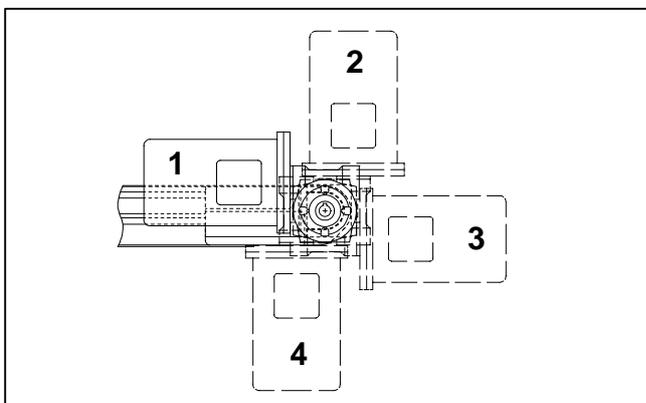
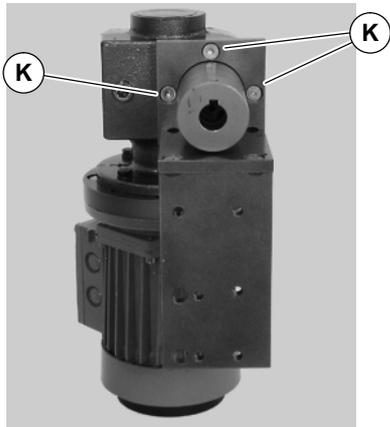

Figure 3
Figure 6
NOTE: Gearmotor may be operated in positions 1, 2, 3 or 4 (Figure 3).
4. If required, change gearmotor position by removing screws (K of Figure 6). Rotate gearmotor to other position (Figure 3) and replace screws (K). Tighten to 12 Nm.